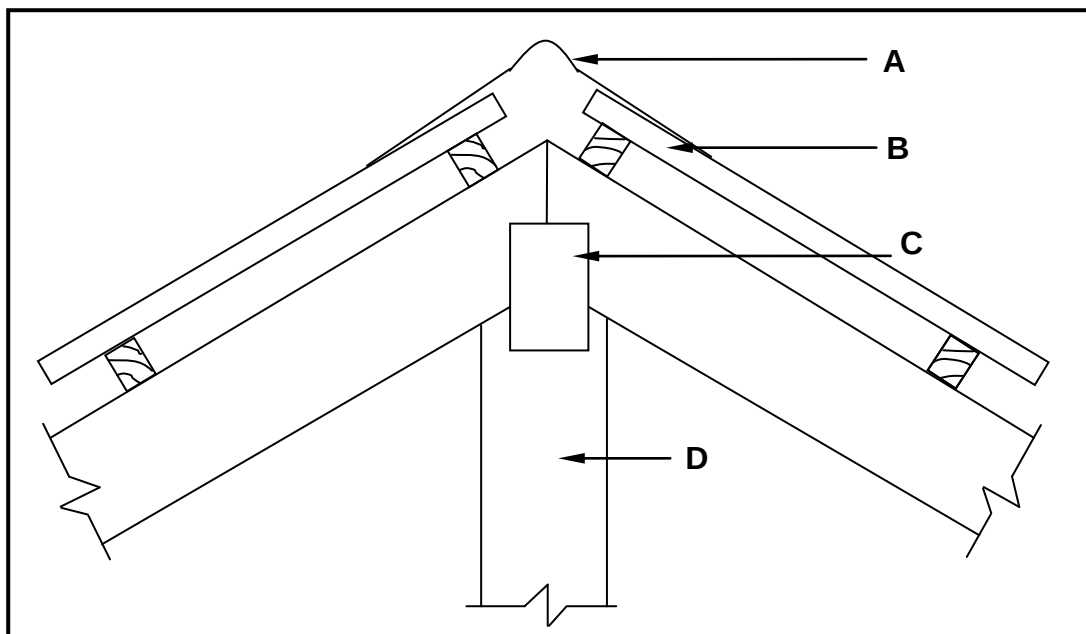

FIGURE 3.6
- 3.6 FIGURE 3.6 below shows a vertical cross section of a part of the construction at the ridge of a roof truss. Identify parts **A–D**. (2)